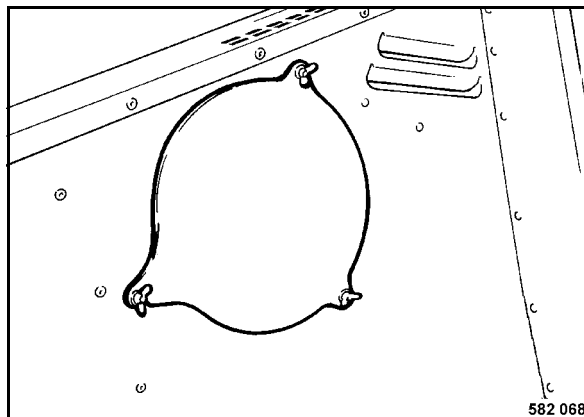

Fig. 102
- Remove the maintenance cover (Fig. 102).